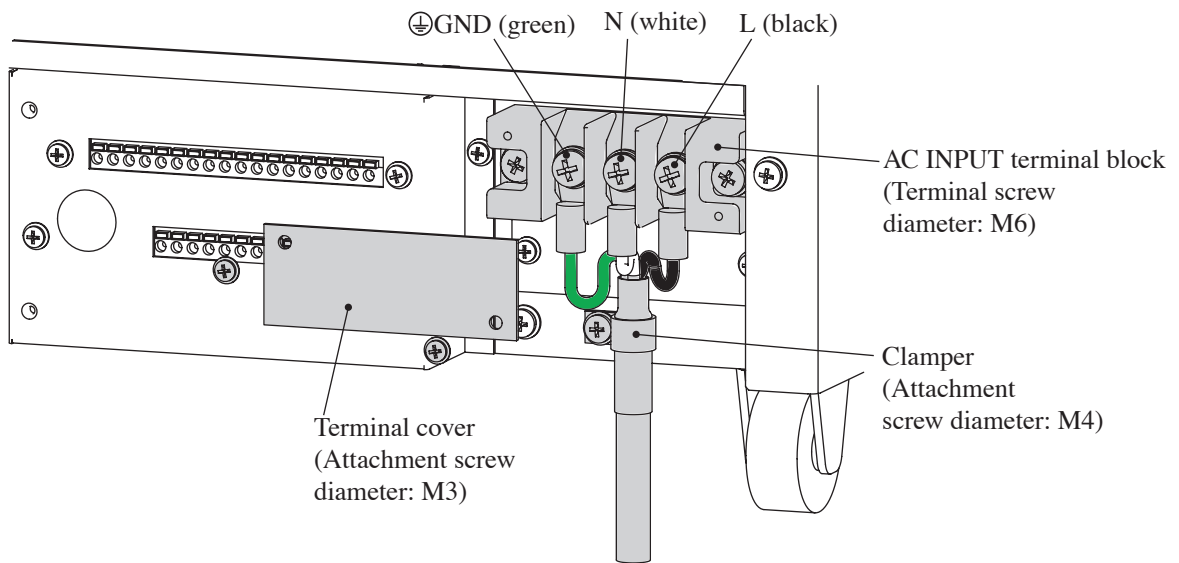

Fig. 1-5 AC INPUT terminal block connection of Type III model
1. Connect the power cord provided to the AC INPUT terminal block as shown in Fig. 1-5.